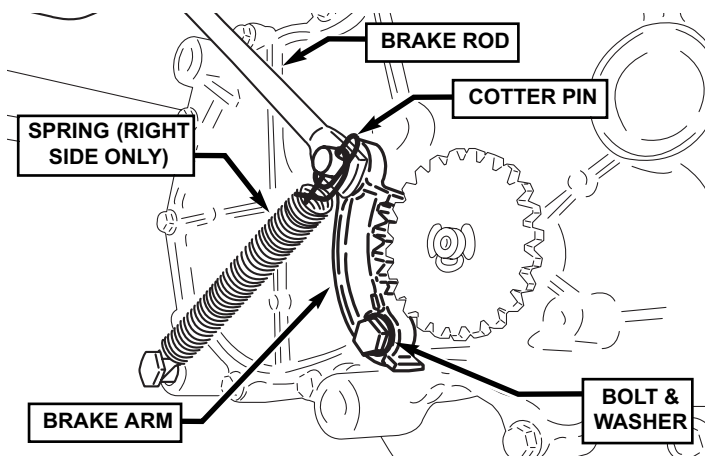

FIGURE 1
- Remove the cotter pin securing the brake rod and brake return spring to the right brake arm. Remove the rod end and spring from the brake arm pin. See Figure 1.
- Remove the hex bolt and washer securing the right brake arm to the transmission. See Figure 1. Remove the brake arm.
- Install the spring and brake rod onto the brake arm pin, securing with the cotter pin removed in Step 2. See Figure 1.